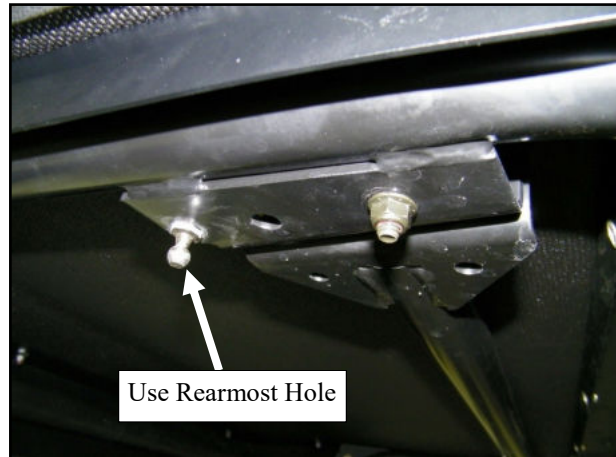

Fig. 13.1 (view of ball stud, front passenger's side)
13.1 Install four ball studs to the OPS (two on each side, front & back) as shown in figure 13.1.